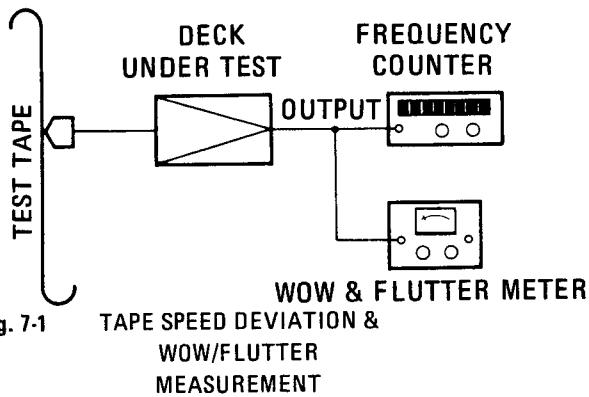

Fig. 7-1 TAPE SPEED DEVIATION & WOW/FLUTTER MEASUREMENT
1. Connect a wow/flutter meter and digital frequency counter to the OUTPUT terminals as illustrated in Fig. 7-1.